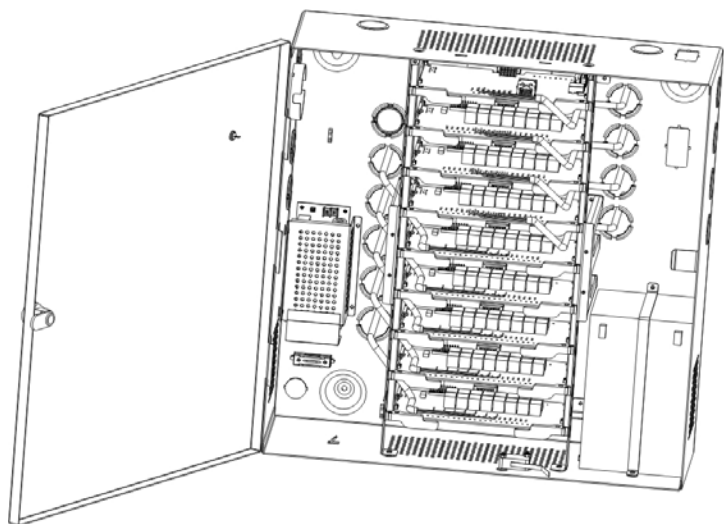

Figure 38: ME-00 Wiring Threads
5. Thread the wires through the designated holes in the rear of the rack as shown in Figure 38, on page 47, wire the individual units according to the wiring instructions as explained in the Wiring Instructions chapter, on page 21.